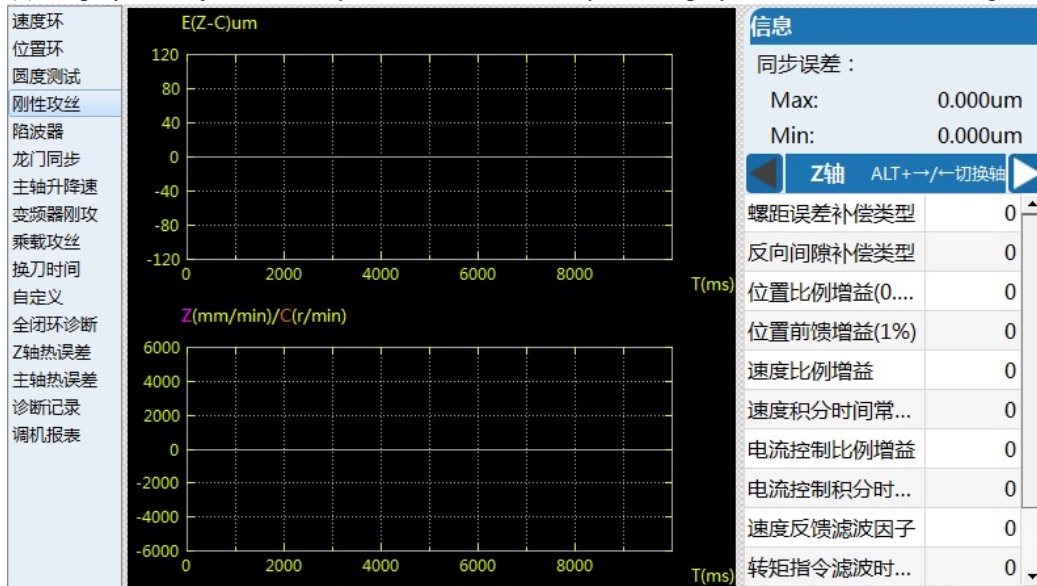

Fig. 6
(3) Display and adjustment of synchronous error. The system display interface is shown in Fig. 6:
Fig.6 displays synchronous error E (Z-C) μm of tapping interpolation axis and speed of interpolation axis as well as servo gain parameter of interpolation axis, acceleration/deceleration time constant and jerk time constant. Increase or decrease gain of Z axis and C axis based on E after tapping program is executed and the system will give a prompt message in the interface. Normally, E value should be limited to $\pm 20\mu\text{m}$.